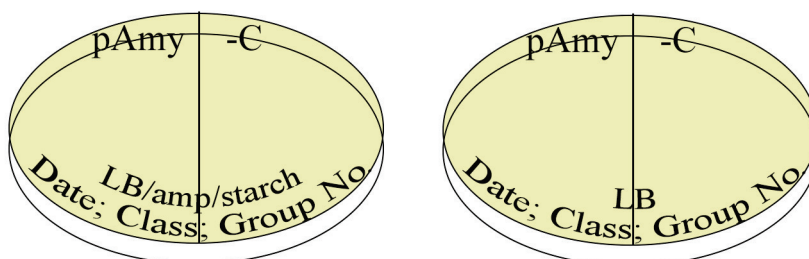

Fig. 15
- Obtain one LB/amp/starch agar plate (selective agar plate) and one LB agar plate (control agar plate). Label the bottom of the plates with the date of the experiment, your class, and group number. On the bottom of each plate, draw a line down the centre. Label one side “pAmy” and the other side “-C” (Fig. 15).